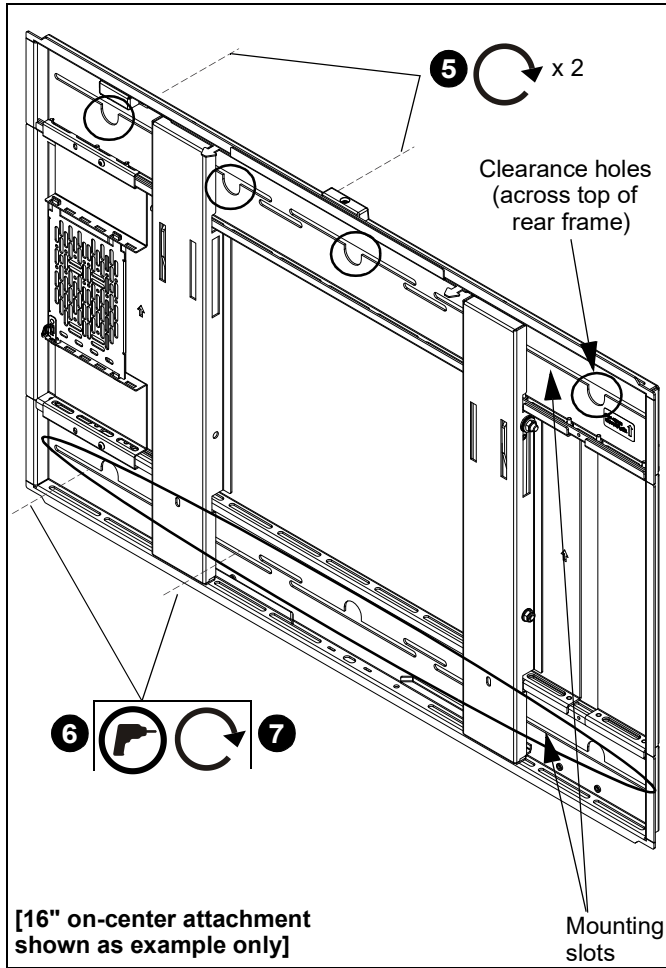

Figure 9
4. Hang rear frame, aligning upper mounting slot clearance holes over fasteners and adjust side-to-side for proper location. (See Figure 9)
6. Drill six remaining pilot holes (see Table 1 for size) at attachment locations and follow fastener information (appropriate for wall type) located in Table 1. (See Figure 9)